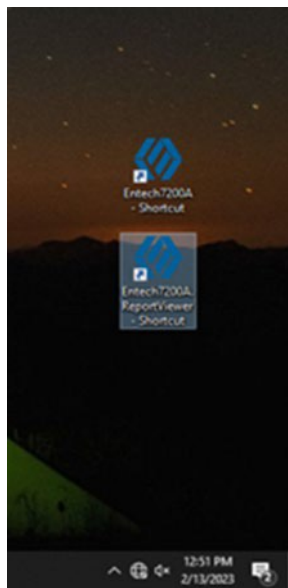

Figure 18. QA/QC reports desktop icon.
6. After an analysis sequence has been completed, click the Entech 7200A ReportViewer7200A icon on the desktop (Figure 18) to access the quality assurance/quality control (QA/QC) reports pertaining to the Entech 7200A analysis runs. To review canister pressures before and after analysis and collected sample volumes, double click the QA/QC report of interest. Reports are listed by date and time and include all information recorded in the sequence table. After review, record any discrepancies in the laboratory notebook.